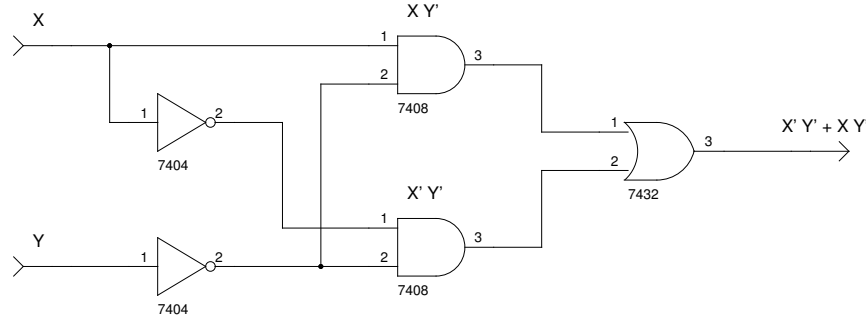
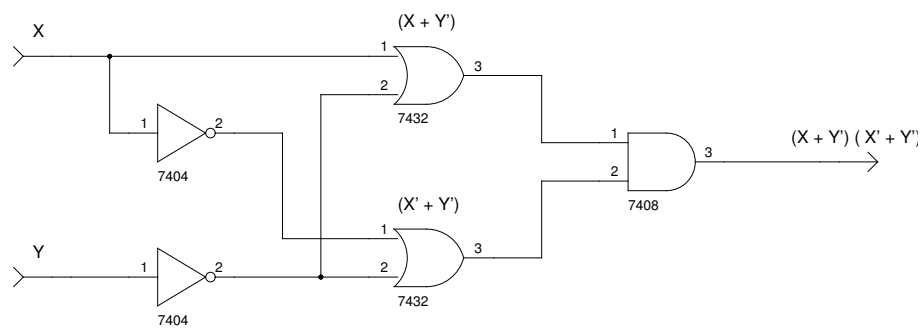

Figure 2: Diagram of equation 1; minterm canonical SOP form.
Figure 3: Diagram of equation 2; maxterm canonical POS form.
The design of these logic functions implemented with gates is shown in Figure 2 and 3. Interestingly, the only change made between the two diagrams is that of swapping the AND gates with OR gates and vice versa.
- Choose a subset of the circuit to implement from Figure 2 or Figure 3..
As an example, the diagram (Figure 2) showed that each pin was connected to the NOT gates first. So the first step was to connect each of the switches which represented the inputs x and y to the corresponding pins on the 7404 NOT gate chip.